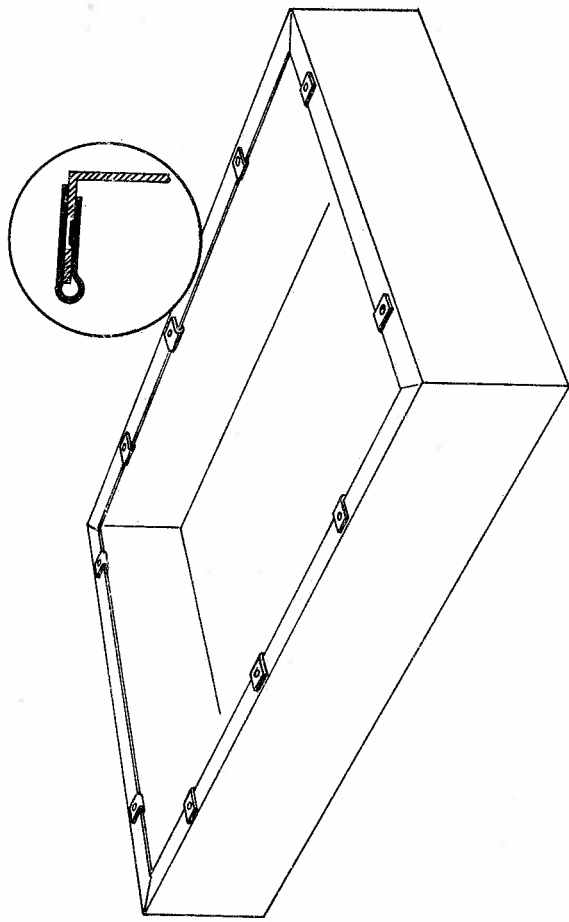

Fig. 8
- 5) Press a speed nut in place over each hole on the bottom flange of the chassis (see Fig. 8).